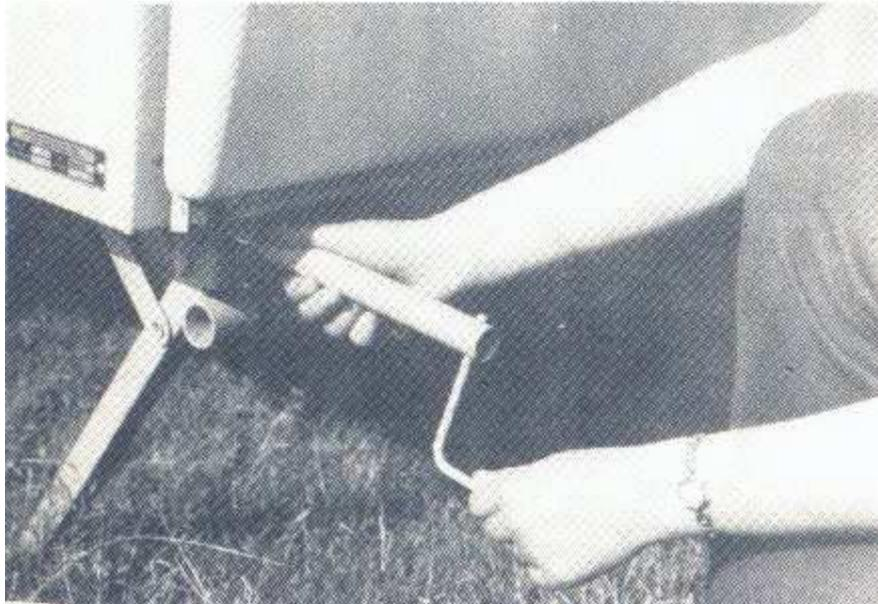

Fig. 5
- 4.3 In order to give the supporter the corresponding stability, the 4 crank pillars made to the ground are turned away according to the ground relations only so far that the suspender is certain. For the relieving of the wheels the crank pillars are not suitable. The crank is to be led according to the figure 5 with the hand.